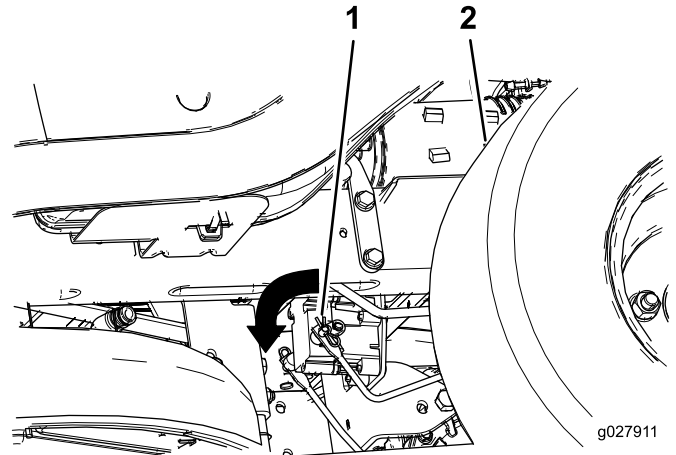

Figure 46
2. Locate the shaft on the electric brake where the brake-link arms are connected (Figure 46).